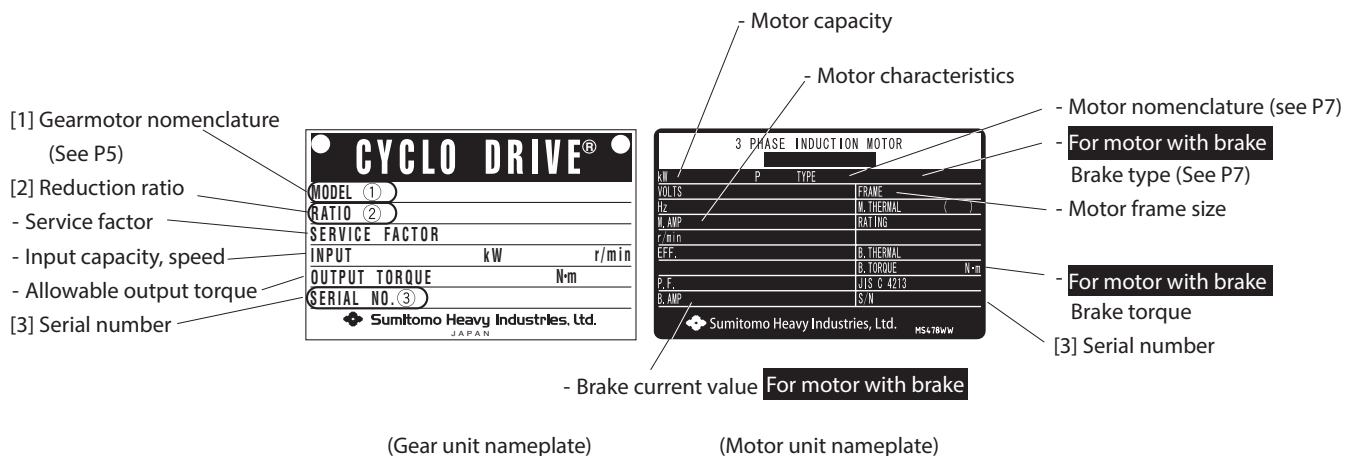

Figure 1-2 Gearmotor nameplate (type 2)
(3) For torque limiter equipped (motor unit nameplate is the same as in figure 1-2.)